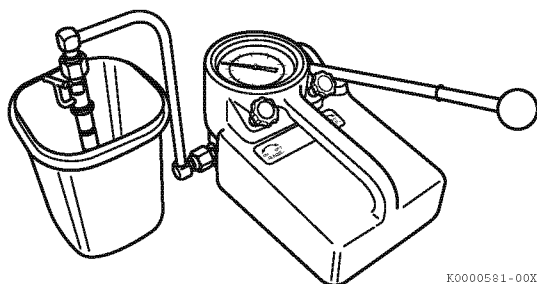

Figure 7-28
3. Using the correct adapter, connect a fuel injector to a nozzle tester. Aim the fuel injector into a suitable container to catch the fuel spray (Figure 7-28).